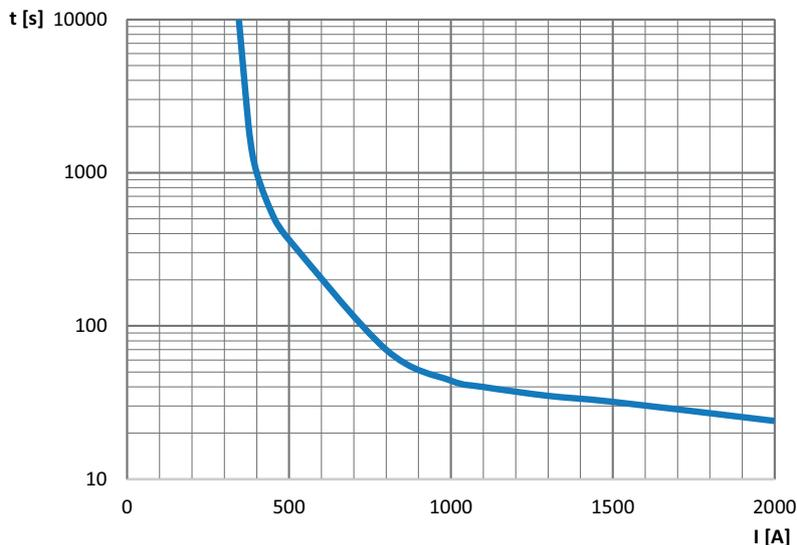

Fig. 13: Load characteristic of the FAILSAFE RELAY
3. FAILSAFE RELAY – emergency relay, which provides failsafe function as per the requirement of Article 5.4.3 of EN 50526-2, i.e. it short-circuits the RAIL and EARTH terminals in case of PVL power failure. The load characteristic of the relay can be seen in Fig. 13.